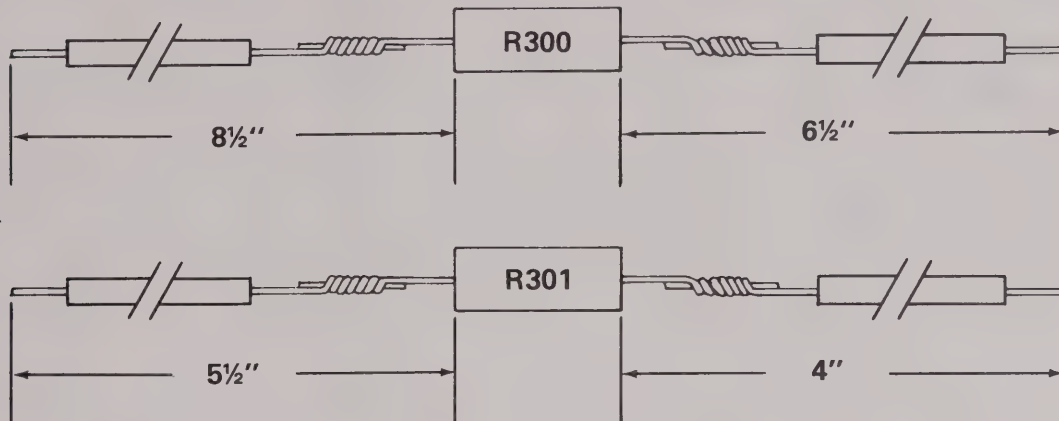

Figure 4. Construction Details for Resistors R300 and R301
- (a) Construct the resistor assemblies as shown in Figure 4. Use insulated wire, and solder all connections. Minimize exposed wire.